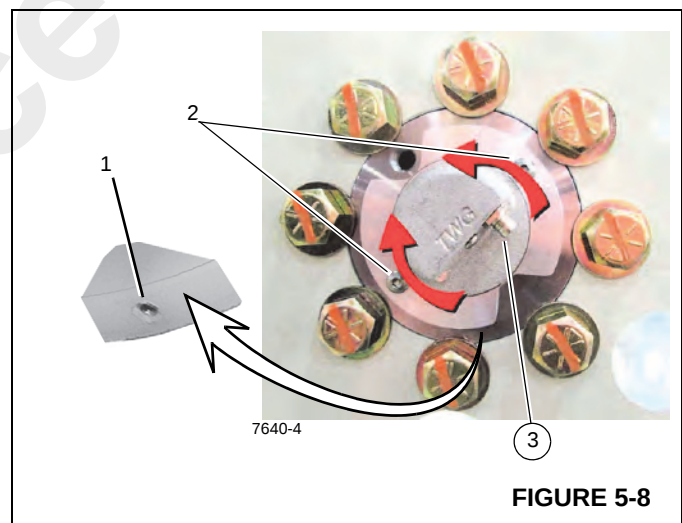

FIGURE 5-8
4. Loosen the set screw (1, Figure 5-8) on the side of the DRI flange.
5. Using the spanner wrench holes (2, Figure 5-8) rotate the DRI so that the connector (3) is pointed down.
6. Tighten the set screw (1, Figure 5-8) after the DRI is positioned as desired.